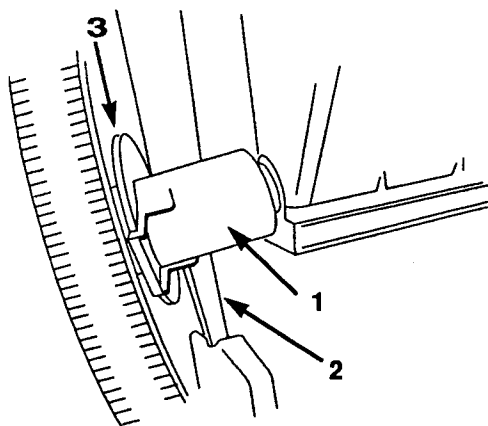

Figure 82
2. Rotate the axle supports so the thin part of its flange fits between the mower handles (Fig. 82). Assure that the flange on the axle support is toward the wheel (Fig. 82).